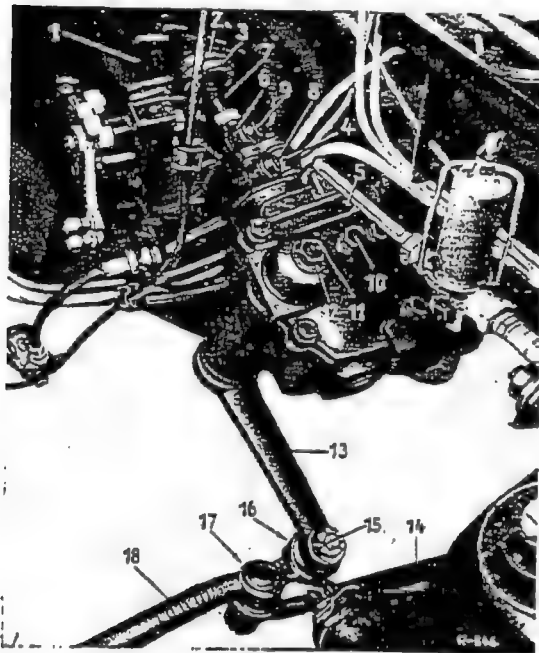

Fig. 46-1/1
1. Unscrew the hexagon socket screw (clamping screw) (8) from the lower flange (4) of the steering coupling (Fig. 46-1/1).
3. Unscrew the three hexagon screws (5) for fastening the steering assembly to the chassis base panel from the outside. Then pull the steering worm off the steer-